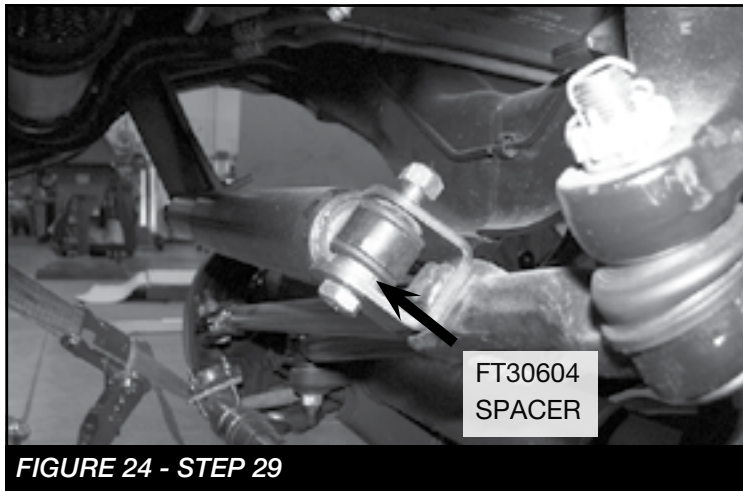

FIGURE 24 - STEP 29
29. Install FT30686 (Stabilizer Clevis) on the factory steering stabilizer using the supplied M12 hardware. **NOTE: Install FT30604 (spacer) like shown in the figure below.** Install the stabilizer using the supplied 9/16" washer and nut to the drag link. Using the factory hardware install the tapered end into the new Fabtech bracket. Torque to 127 ft-lbs. **SEE FIGURE 24**